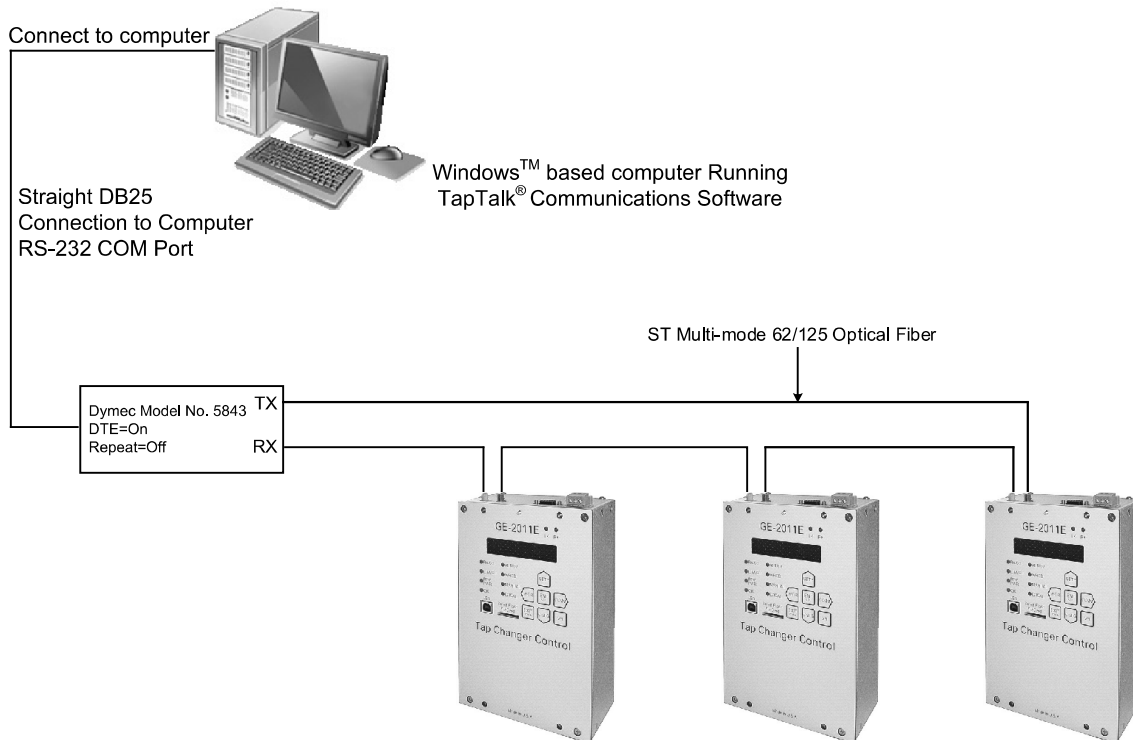

Figure 2 Fiber Optic Connection Loop (optional V-pin connection available)
**Communications Using Networking:** The addressing capability of the GE-2011E allows networking of multiple Beckwith Electric Digital Tapchanger Controls. Each tapchanger control can be assigned a Communications Address, Feeder Address or Substation Address ranging from 1 to 65519. Selected commands may be broadcast to all controls on the network. Figures 2, 3 and 4 illustrate typical network configurations. Addresses 1 to 247 can be assigned to MODBUS® and 1 to 65519 for DNP3.0.